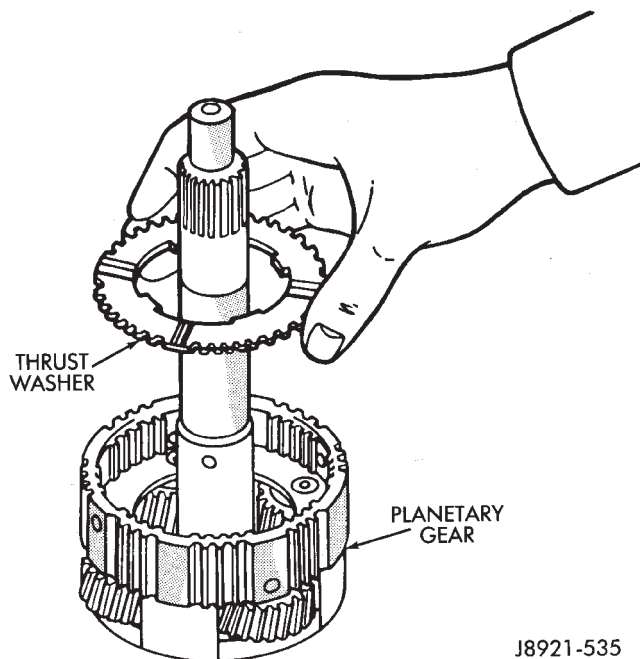

Fig. 15 Removing Planetary Thrust Washer
(16) Remove thrust washer (Fig. 15).